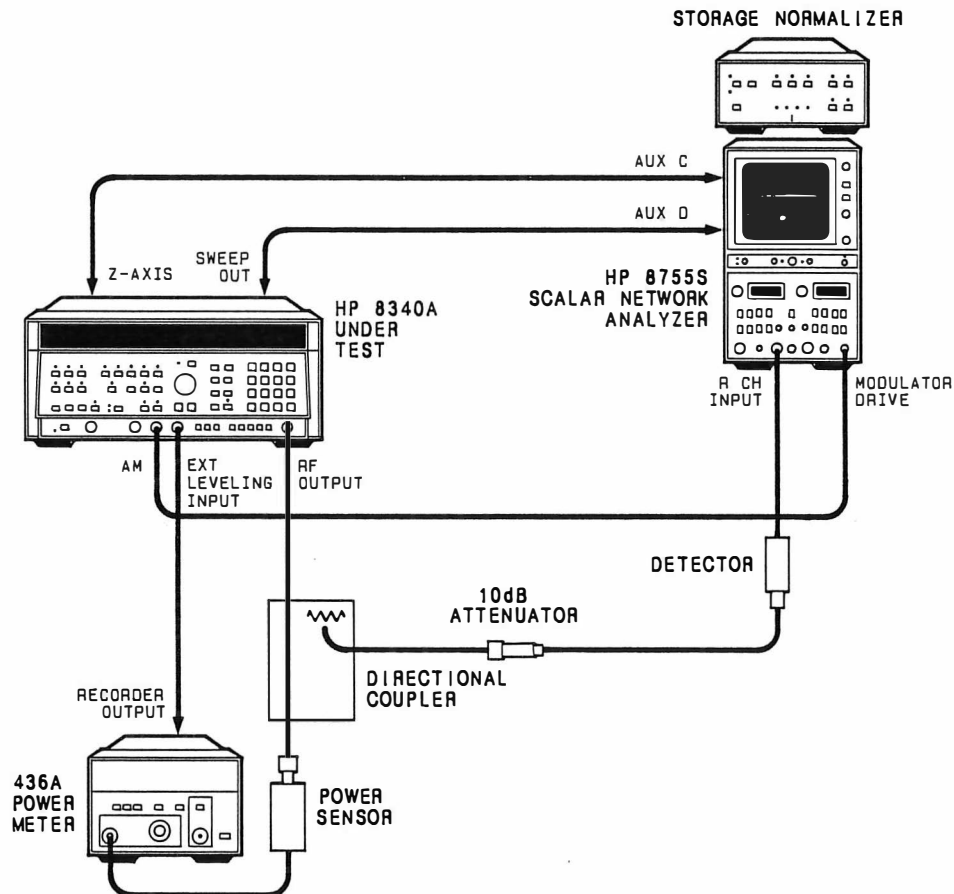

Figure 5-60. Flatness Adjustment Equipment Test Setup
15. Connect the equipment as shown in Figure 5-60. Press HP 8340A [CW] and enter [5] [GHz]. Press [RF] to turn RF power off. Zero the power meter. Press [RF] to turn RF power on. The power level should be 0 dBm. Press the 436A [RANGE HOLD].